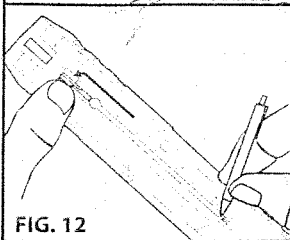

FIG. 12
4. Look inside the Magazine slot on top of the gun. If a BB is visible, use a ballpoint pen, screw driver, etc. to remove the BB from the gun as shown (Fig.12).